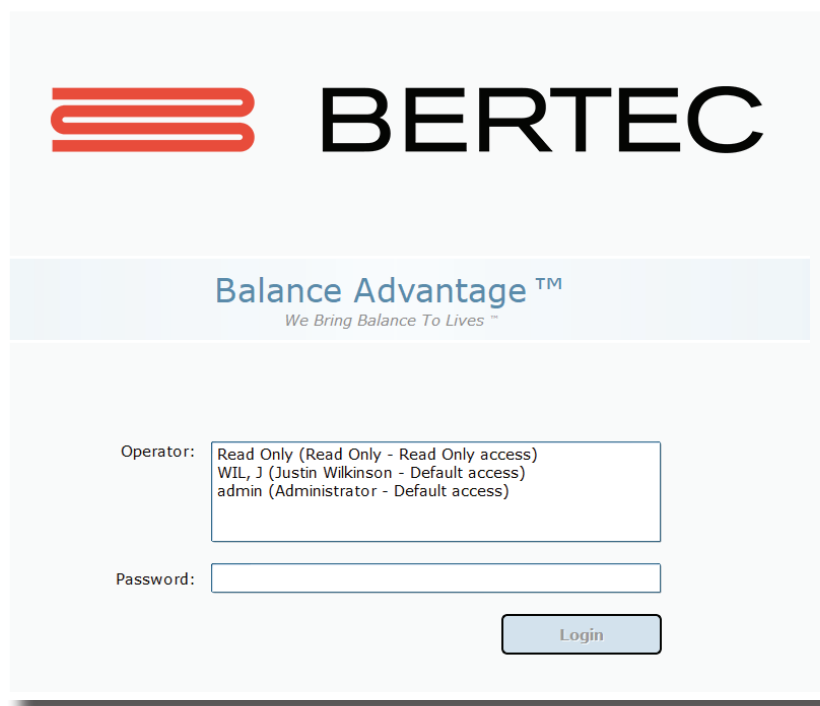

Figure 10: Software Login Screen.
5. If the plate is disturbed during this process, refer to Appendix F or logout of the program. Refer to Figures 10 and 11 on the previous page for logout instructions.
1. Open Bertec® Balance Advantage®. Arrive at the login screen, shown in Figure 10.